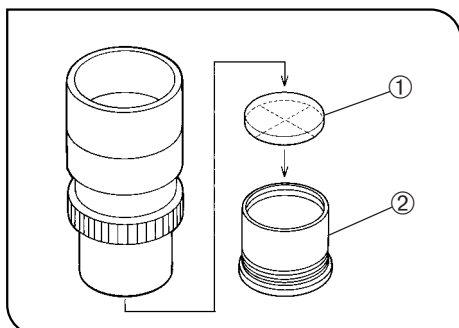

Fig. 19
(Fig. 19)
Following Fig. 19, remove the micrometer mounting frame ② from the eyepiece and place a micrometer disk ① into the mounting frame.